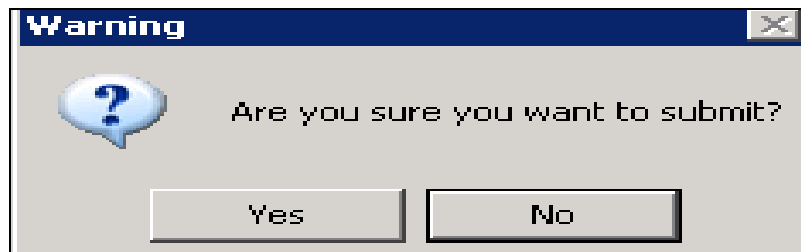

Figure 11-36: Validation warning
10. A series of Warning messages are generated as you attempt to submit a Quarterly Report. The first message will ask if you are sure you want to submit (Figure 11-36). Select Yes or No.